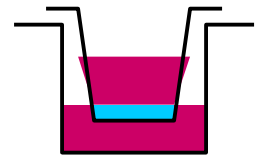

Figure 4
- When all inserts have been filled, place the plate in an incubator for 30-60 minutes to complete the gelation of the Corning® PuraMatrix™. For higher percentage hydrogels, 30 minutes is sufficient; for 0.15-0.25% hydrogels, a one-hour equilibration is preferable. The media levels may equilibrate to some extent between the insert and the well during this period (**Figure 4**).